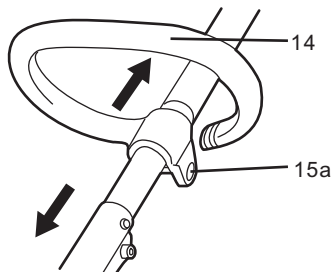

Fig.9
- > Loosen the wing nut (15a) on the auxiliary handle (14) and adjust the height (Fig. 9).